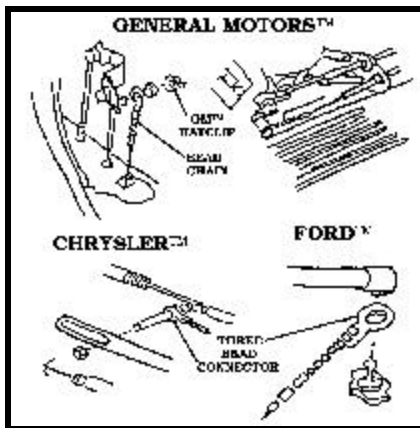

Figure 16
1. Most **General Motors™** vehicles and many **Chrysler™** vehicles can use the **THREE BEAD CONNECTOR** to attach the **CRUISE CABLE**. **Figure 16**